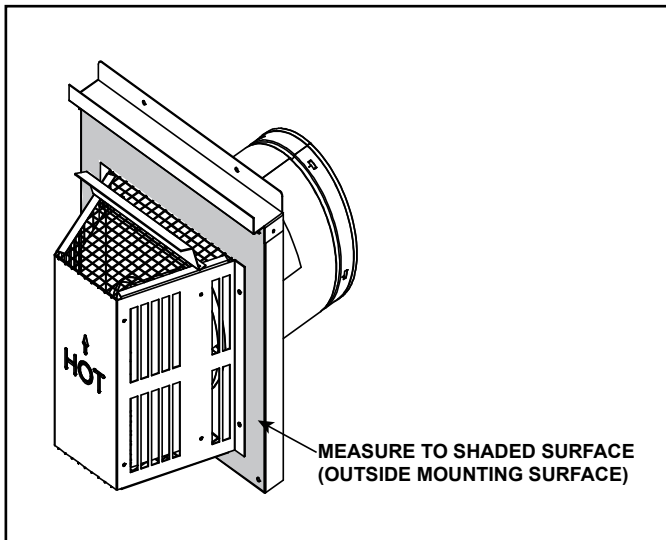

Figure 4.7 Measure to Outside Mounting Surface
- Horizontal terminations are measured to the outside mounting surface (flange of termination cap) (see Figure 4.7).
To replace the first 90° starter elbow with two 45° elbows, refer to Figure 4.7. All other 90° elbows can be replaced with two 45° elbows.